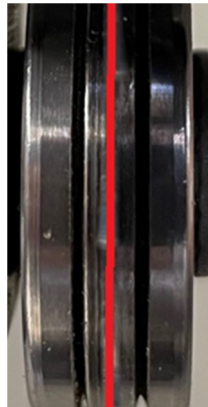

Figure 38
- Center the bearing with the 2 fixation screws of the guide, so that the blade is in contact with the space between the two scrolling grooves, (Fig 38)